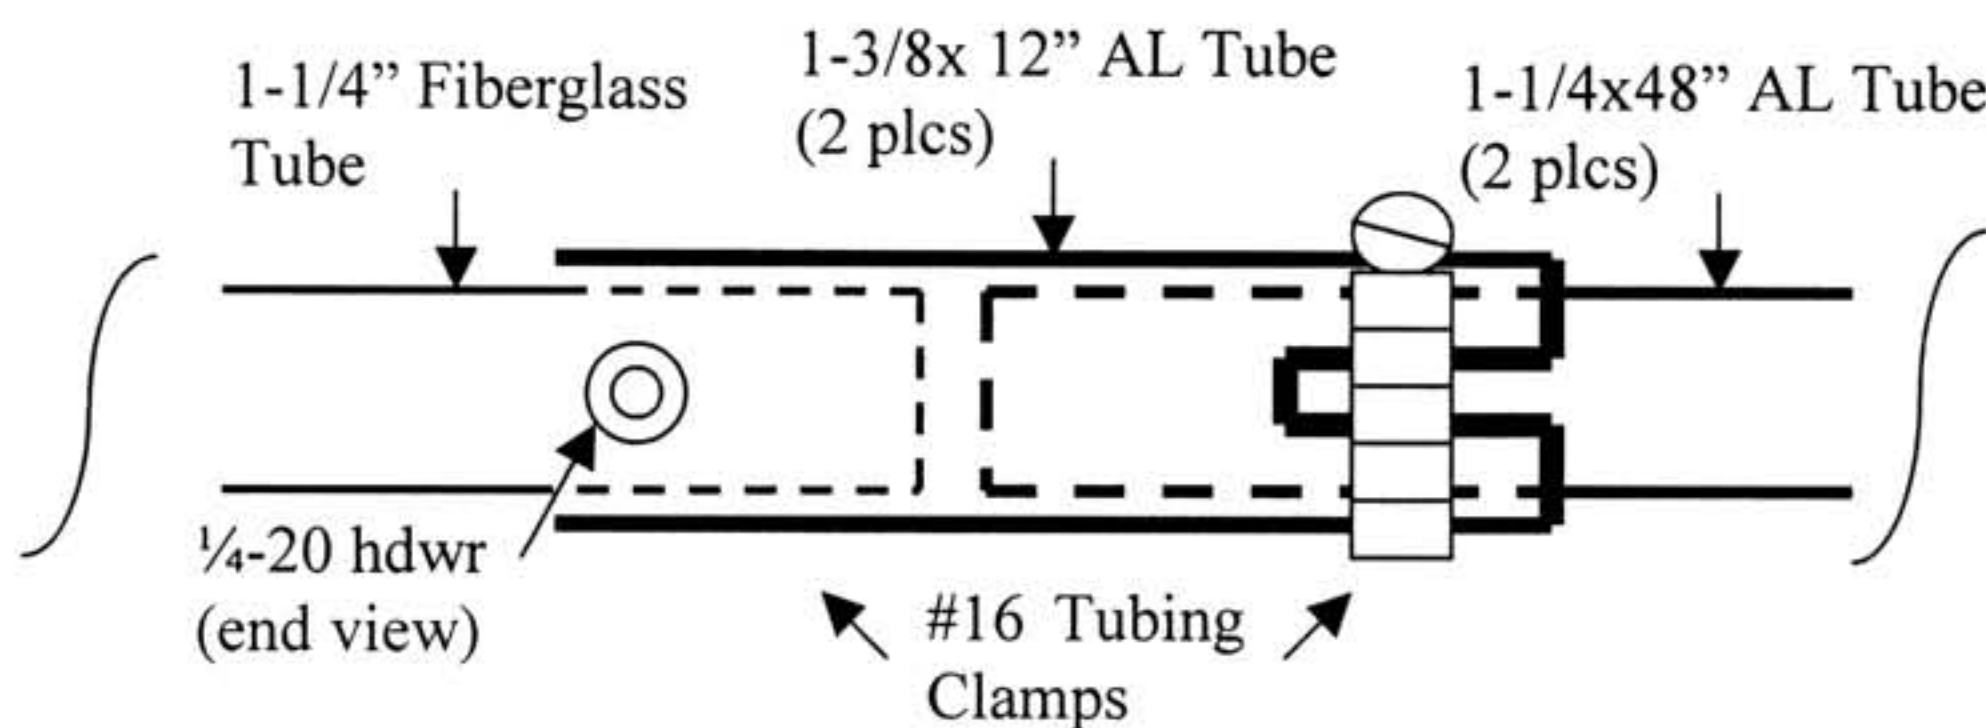

Figure 3: 48” Radiator Tube to Center Insulator Assembly
- Slide the two 1-1/4 x 48” aluminum radiator tubes into each of the 1-3/8” x 12” aluminum tubes mounted to the 1-1/4” x 12” fiberglass rod. The 48” aluminum tubes should slide up against the fiberglass rod. Clamp the 1-1/4 x 48” aluminum tubes to the 1-3/8 x 12” aluminum tubes using #16 tubing clamps as shown in Figure 3.